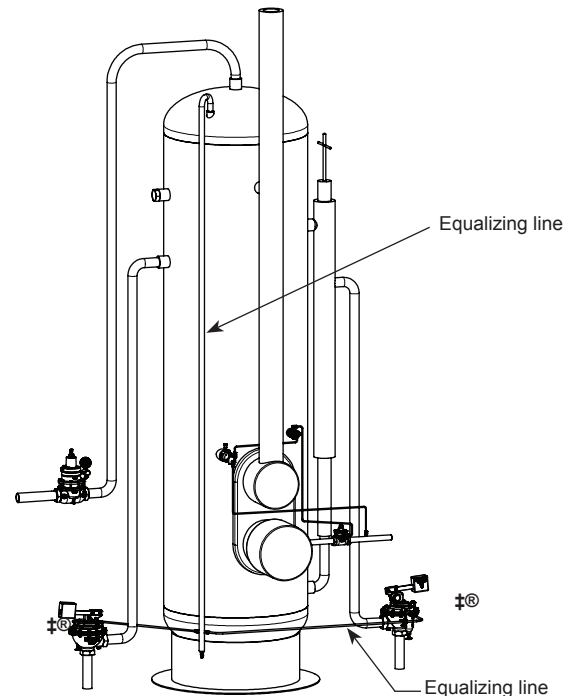

Fig. 1-2
5. Adjust weight on Lever Arm for desired water column height. See figure 1-2 for adjustment heights.